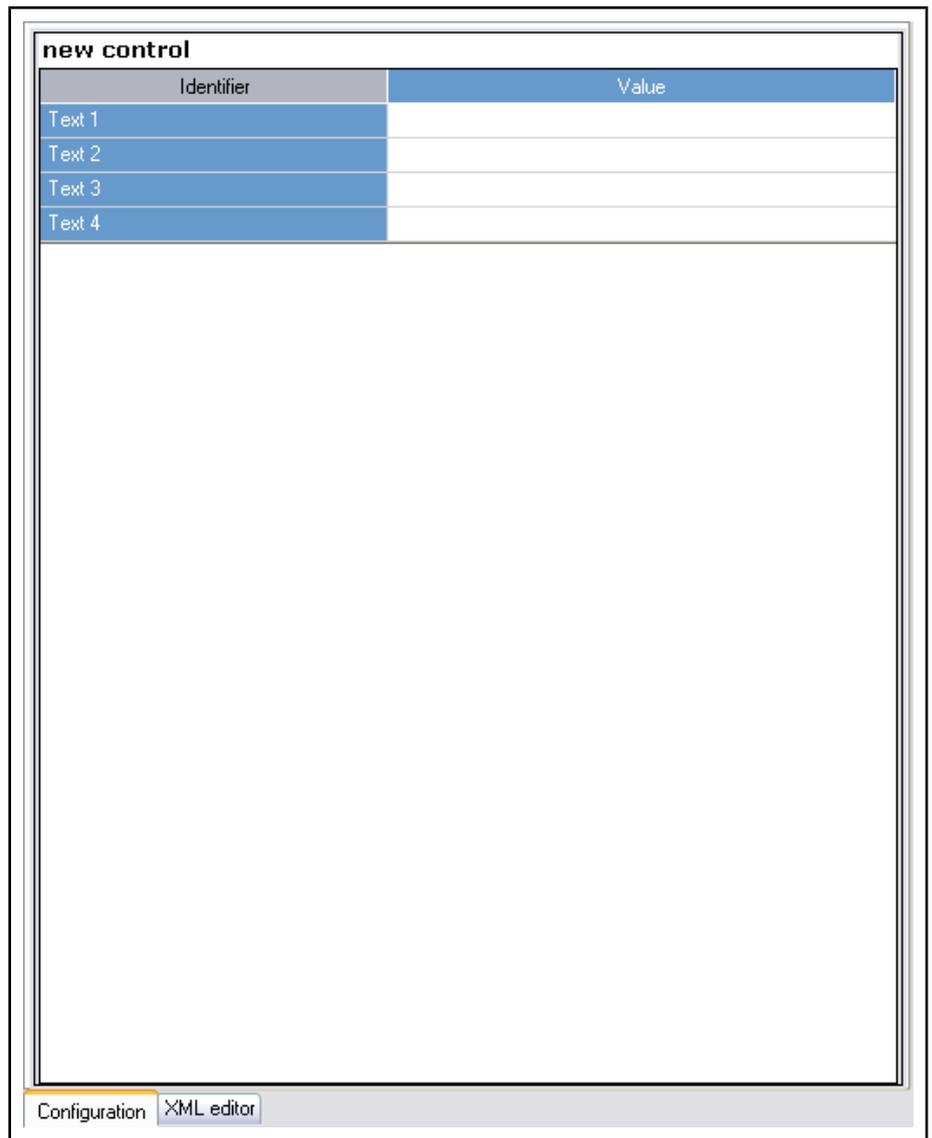

Fig. 16-6: Template for a new container configuration
**Creating a New Configuration** Via **New** under the node **List Controls** or **Container Controls** either a new list configuration or a new container configuration can be created for the tool editor (see fig. 16-6 "Template for a new container configuration" on page 313). For this purpose, the relevant basic configuration is referred to for initial definition. Another option is to set a similar configuration as basis via **Duplicate (Copy &**